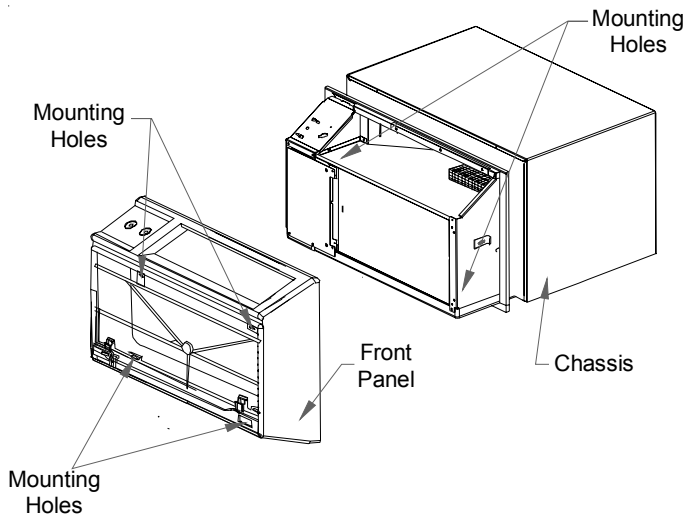

Figure 11
2. Using the four washer head sheet metal screws provided, mount the front panel to the chassis through the front panel mounting holes (Figure 11).